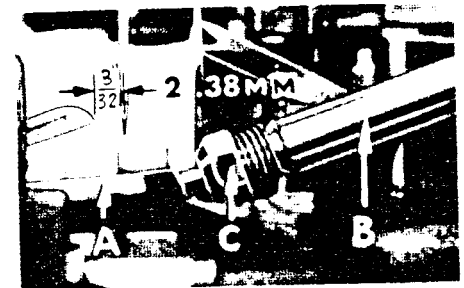
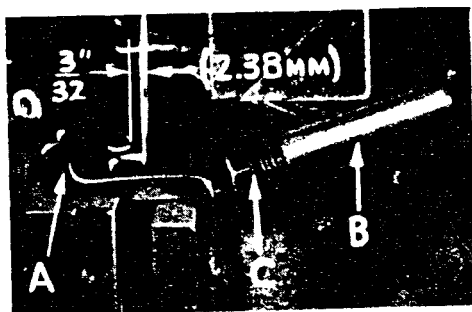

Fig. 6
Fig. 6A
At this point, insert lower looper (A, Fig. 6) on 695B012, 030 and 051 or lower spreader (A, Fig. 6A) on 695B030 into bar (B). With lower looper or spreader at left end of its stroke, set looper or spreader point $3/32$ inch (2.38 mm) from centerline of needle (Fig. 6 or 6A) using looper gauge No. 21225-3/32. Do not have lower looper or spreader deflecting needle. Tighten nut (C). Now assemble differential (front) feed dog.